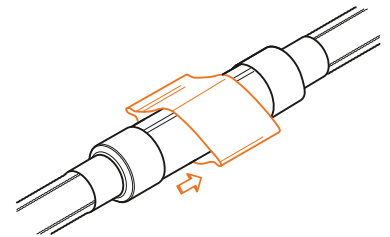

Fig. B11.1.16
16. Position the heat shrink band directly over the prepared section of pipe around the plug (Fig. B11.1.16). Remove the protective foil from the inner surface of the heat shrink band.